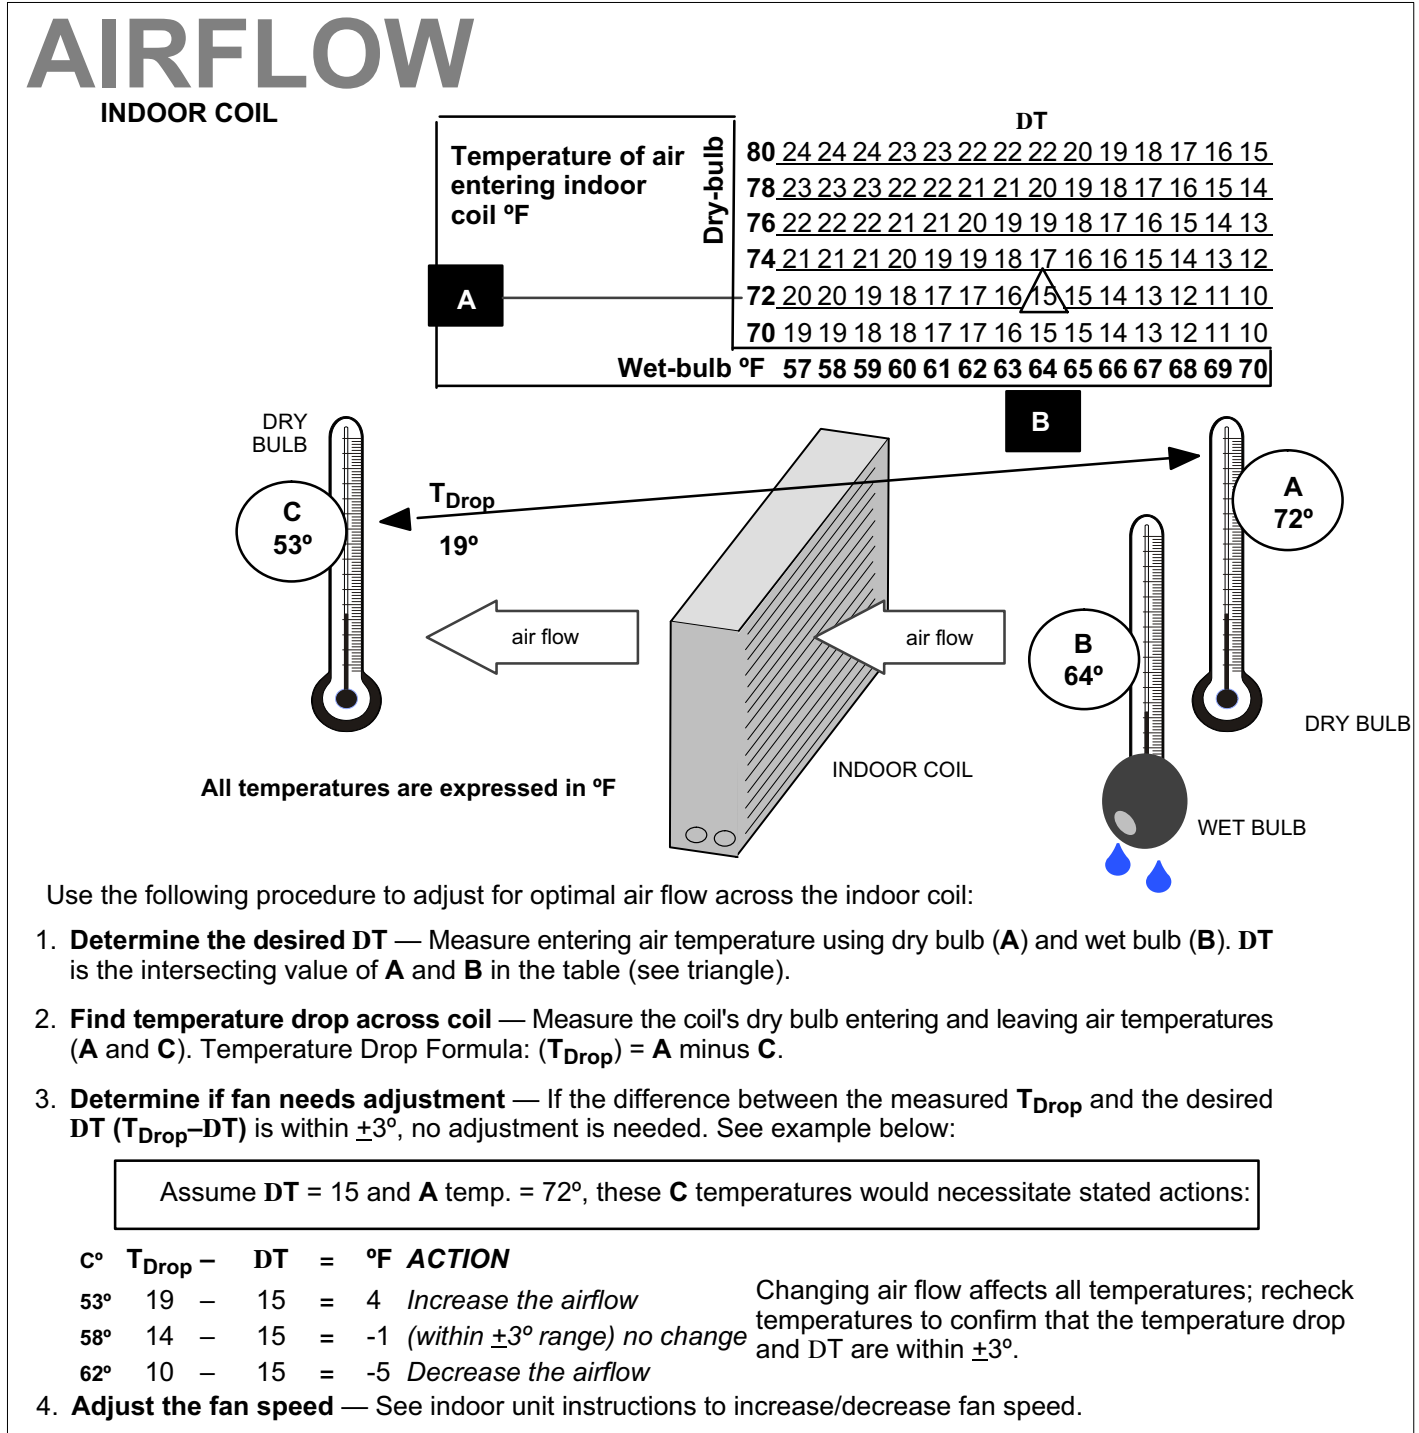

Figure 29. Checking Indoor Airflow over Evaporator Coil using Delta-T Chart
Check airflow using the Delta-T (DT) process using the illustration in figure 29.
1. Confirm proper airflow across coil using figure 29.